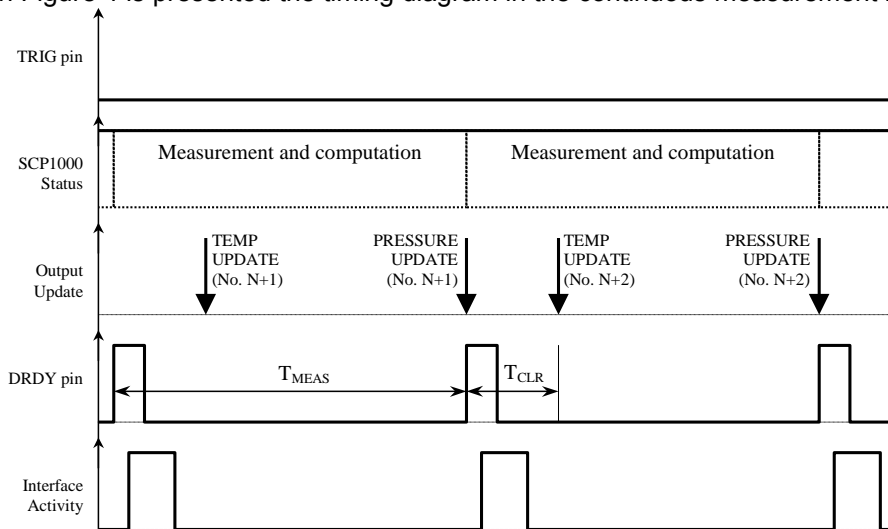

Figure 4. Timing diagram in continuous measurement mode.
In Figure 4 is presented the timing diagram in the continuous measurement modes.
In order to clear the DRDY signal, the host processor has to read the pressure output data. The temperature output data is updated before the pressure output data, thus the time to service the DRDY ( $T_{CLR}$  in Figure 4) is shorter than the measurement and computation time ( $T_{MEAS}$  in Figure 4).
- M2) For details for DRDY signal please see Figure 4, Figure 5 and section 2.3.